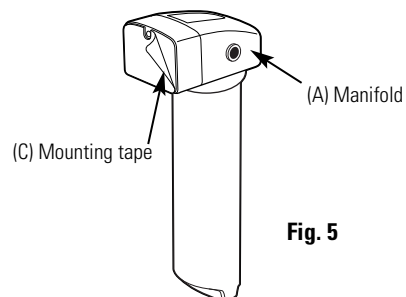

Fig. 5
B. OPTIONAL INSTALLATION (Mounting Using the Mounting Tape Provided [Fig. 5]) (If mounting to drywall, the screw must be used also).
3. Using the double-sided mounting tape provided (C), remove one side of the protective wax paper and apply the entire piece to the back side of the manifold (A), applying firm pressure to the entire piece.
4. Remove the remaining wax paper from the double-sided mounting tape (C) and adhere it to the cleaned wall surface, applying firm pressure to the entire piece.